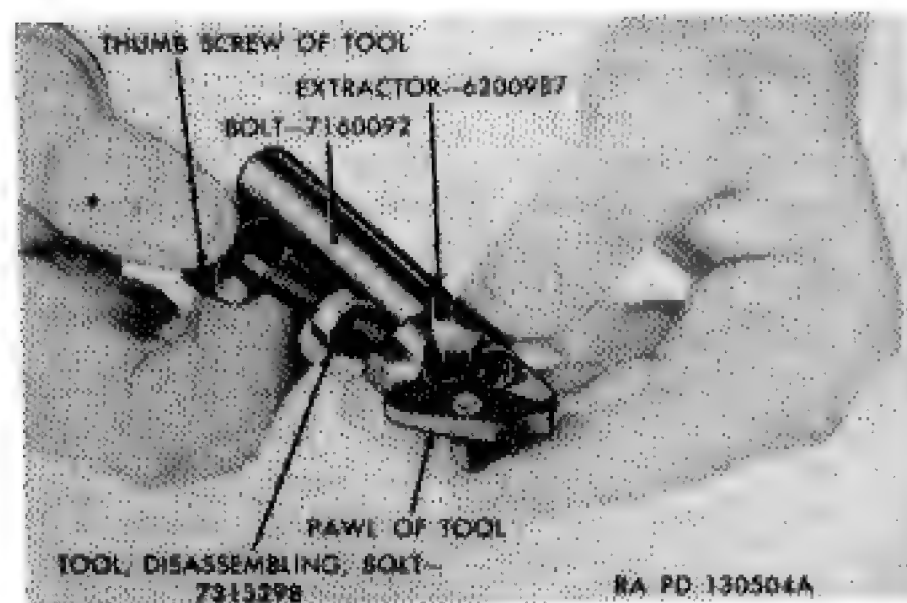

Figure 60. Disassembling bolt.
b. Assemble bolt disassembling tool 7313298 (Fig. 6) to the bolt (Fig. 60), with the unslotted tang of the tool pawl resting under the bevel of the extractor plunger. (Bolt disassembling tool 7313298 is supplied to organizational personnel and to ordnance field and depot maintenance personnel.) While pressing down on the unslotted tang of the tool pawl to make certain that it stays under the bevel of the extractor plunger, turn the thumb screw until the extractor plunger is depressed making it possible to remove the extractor by forcing it out through the hole in the tool.
c. Place bolt disassembling tool 7313298 on bolt (Fig. 60) so that slotted tang of its pawl rests on extractor plunger. (The bolt disassembling tool 7313298 is supplied to organization personnel and ordnance field and depot maintenance personnel.) Turn thumbscrew of tool until plunger is depressed; at the same time, the ejector is depressed into bolt by the tool.